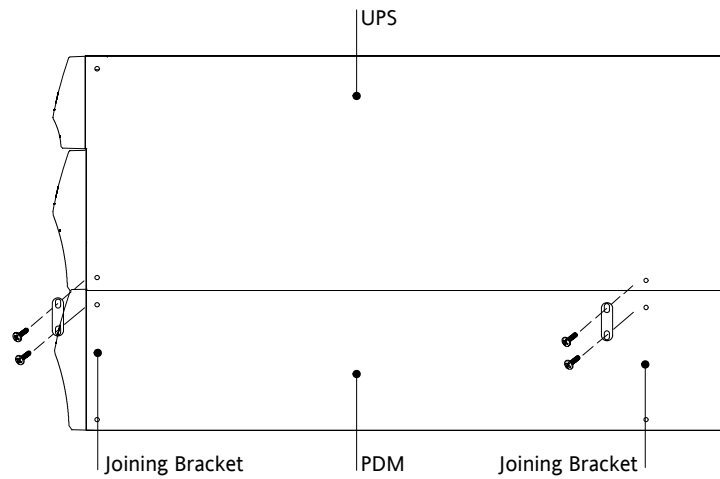

Figure 5. Installing the Joining Brackets (Top View)
2. Align each joining bracket with the adjacent cabinet screw holes and secure with the supplied screws (see Figure 5).